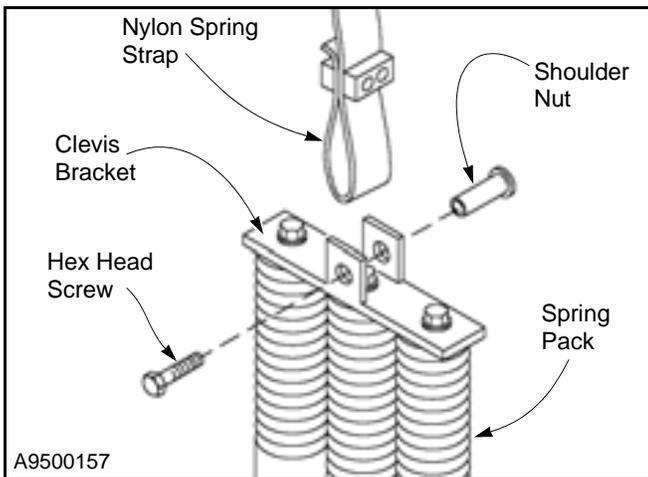

Figure 70
- To release the spring pack from the strap, remove the hex screw and the shoulder nut passing through the clevis bracket located at the top of the spring pack. (See Figure 70.)